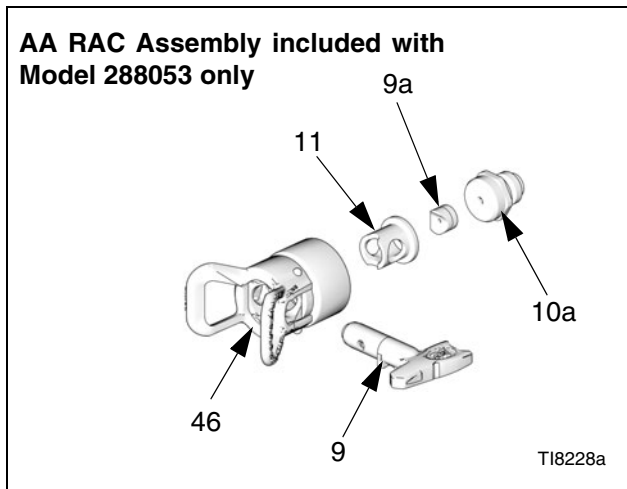

FIG. 18
Follow the Service Notes in FIG. 17 and FIG. 18 when reassembling the gun.
1. *Non-circulating guns only:* Lubricate the backup o-ring (7†) and o-ring (6†) and install them on the fluid outlet port plug (5). Install the plug in the fluid outlet port of the fluid housing (2). See FIG. 18.
2. *All guns:* Reinstall the gasket (4) in the fluid housing (2).
3. Install the o-rings (22*, 23*) on the piston (20). Install two o-rings (25*, 26*) on each of the piston stems. Lubricate all the o-rings, the piston, and the piston stems.